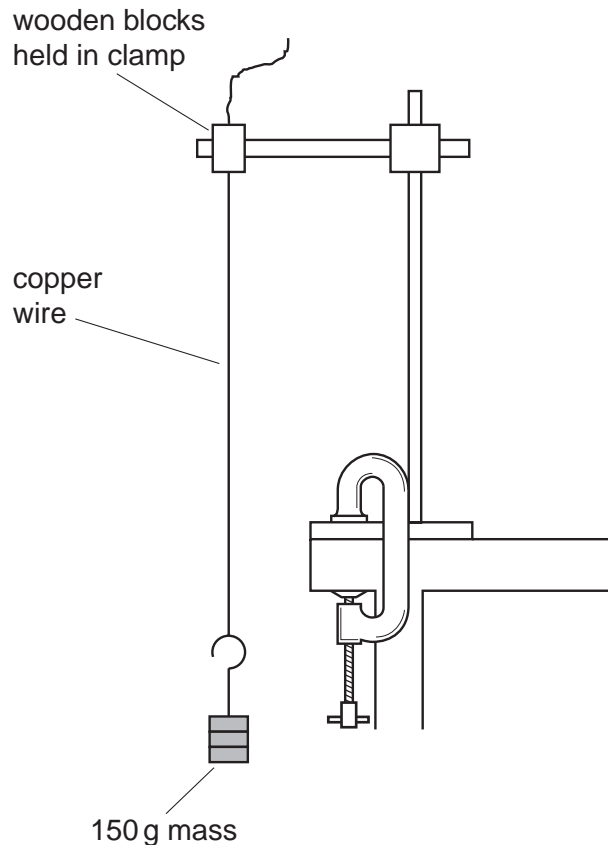

Fig. 1.1
- 2 A 150 g mass should be firmly attached to one end of the copper wire. The other end of the wire should be placed between the blocks of wood and clamped so that the wire hangs over the edge of the bench as shown in Fig. 1.1.